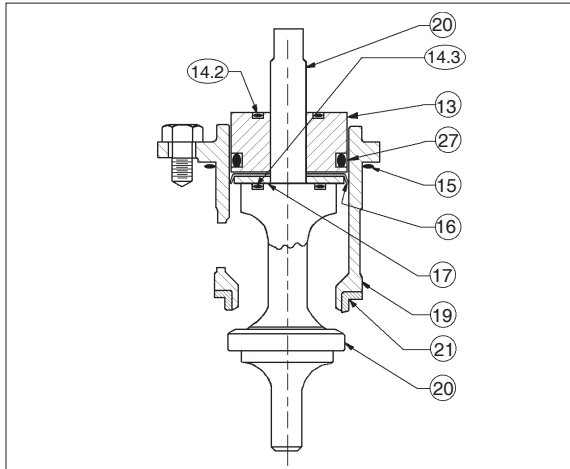

Figure 3: Assembled ITA
5. The Inner Trim Assembly (Figure 3) is removed and replaced in the body (23) as an assemblage of parts. The Inner Trim Assembly, hereinafter called **ITA**, consists of the following parts:
13. Remove the lower piston spring (22), as applicable, from within the body (23).
14. Remove o-ring cage seal (15).
15. If supplied, remove internal sensing drilled plug (33) using 5/32" (4 mm) Allen wrench.
16. Remove body (23) from vise. Clean all reusable metal parts according to owner's procedures.
C. Disassembly of the ITA: (See Figure 3)
1. Pull the valve plug (20) downwards and out of the guide bearing (13) and cage (19).
2. Remove the guide bearing (13) from the upper end of the cage (19).
3. Remove o-ring middle stem seal (14.2) from guide bearing (13).
4. Examine the components (27.1, 27.2, 27.3, 27.4) of the dynamic side seal (27) mechanism to determine if significant leakage was occurring. If the dynamic side seal (27) shows signs of significant leakage, determine if operating